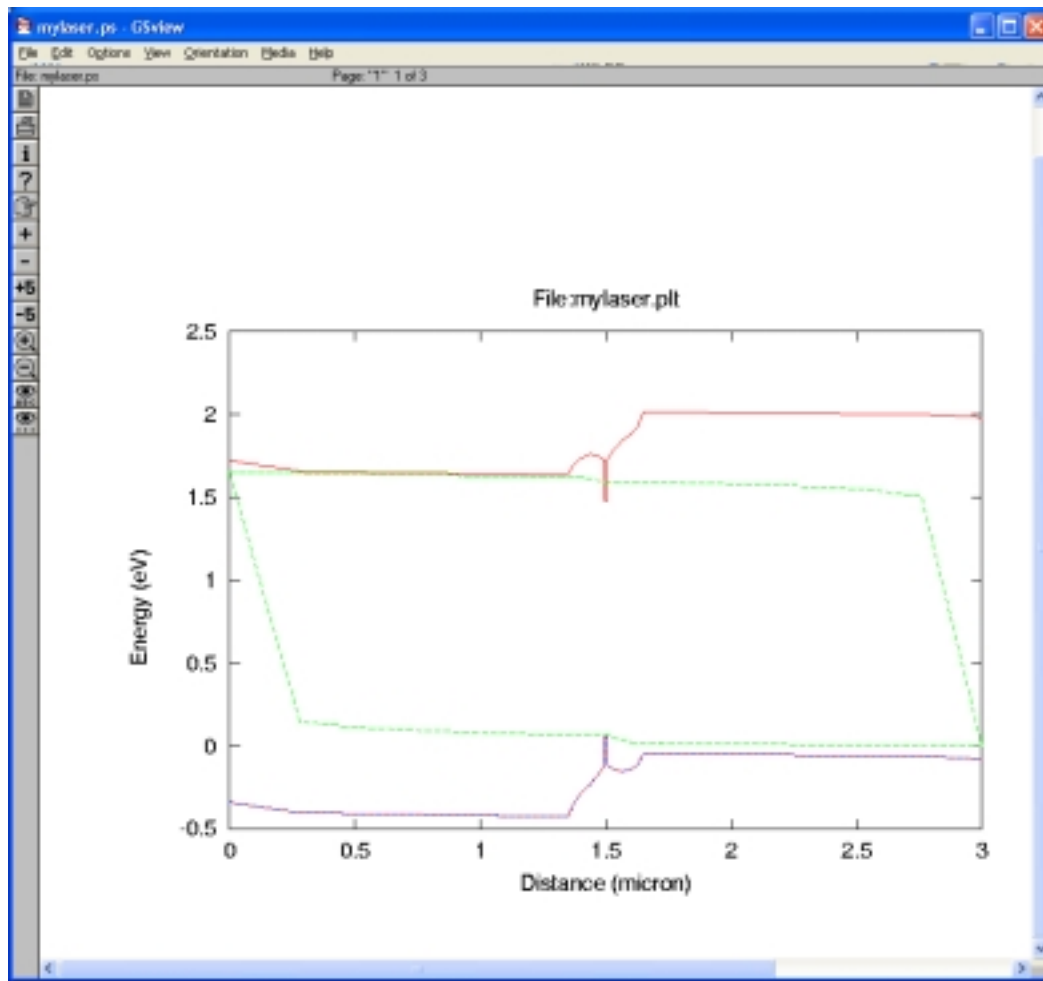

Fig. 11 Energy band diagram at maximum bias (green: quasi Fermi levels).
(9) Plot your curves by right-clicking on “mylaser.plt” and selecting “View results”. The band diagram is now shown at maximum bias, including quasi Fermi levels (Fig. 11). The following plot shows strong quantum well gain. The threshold current in the last plot should again be around 2mA. The LASTIP reference manual and its appendix gives all possible options for each plot command.